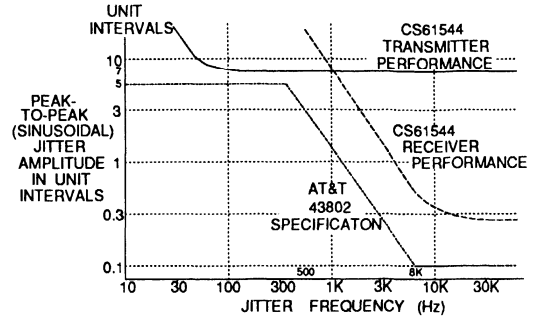

Figure 7 - Typical Input Jitter Tolerance of Transmitter and Receiver
9. For CERDIP ICs, assumes IC is operated within -70° to +70° C of reset temperature. For Plastic ICs, assumes is operated within -25° to +40° C of reset temperature (meets Bellcore central office specification: TR-EOP-000063 NEBS). For all packages, assumes IC is operated within 0.1 V of reset V_+ . Input data pattern is quasi-random: (2↑20) - 1 with 1-in-15. Between 500 Hz and 8 kHz the jitter tolerance will be better than the AT&T 43802 line shown in Figure 7.